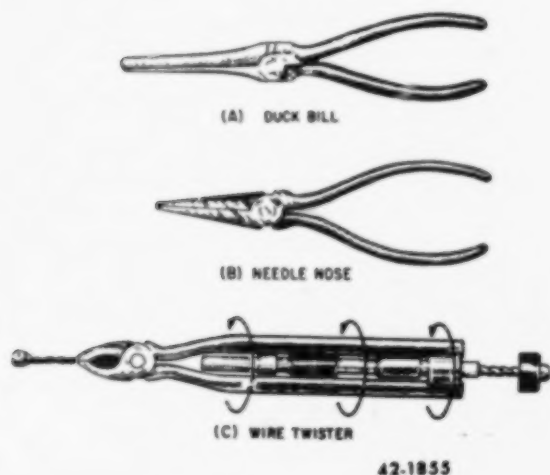

Figure 3-5. Duckbill, needle-nose and safety wire pliers.
Duckbill pliers. Duckbill pliers, as shown in figure 3-5, (A), have long wide jaws and slender handles. Duckbills are used in confined areas where the fingers cannot be used. The jaw faces of the pliers are scored to aid in holding an item securely. Duckbills are suitable for twisting the safety wire used in securing bolts, nuts, and screws if wire twisting pliers are not available or cannot be used.
Needle-nose pliers. Needle-nose pliers (figure 3-5, (B)) are used in the same manner as duckbill pliers. However, there is a difference in the design of the jaws. Needle-nose jaws are tapered to a point, which makes them adapted to installing and removing objects in tight places, and for making delicate adjustments. They have serrations at the
Wire-twister pliers. Wire twisters (safety wire pliers) are three-way pliers which can hold, twist, and cut. (See figure 3-5, (C).) They are designed to reduce the time used in twisting safety wire. To insure proper operation of the wire-twisters, the spiral of the twister should be lubricated occasionally.